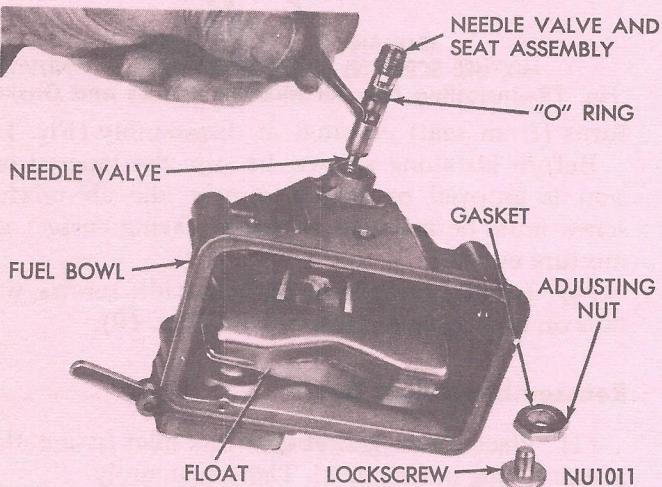

Fig. 12—Removing or Installing Fuel Inlet Needle and Seat
(5) Coat a new "O" ring with vasoline and slide over fuel inlet needle seat and down into position. Install needle and seat in fuel bowl (Fig. 12).
(6) Using a new gasket, install fuel level adjusting nut over threaded end of needle seat, with flats aligned. Place a new gasket over lock screw and install in needle seat and over adjusting nut.
(7) Invert main body and install new main to throttle body gasket. Place throttle body in position on gasket. Install attaching screws and tighten securely.